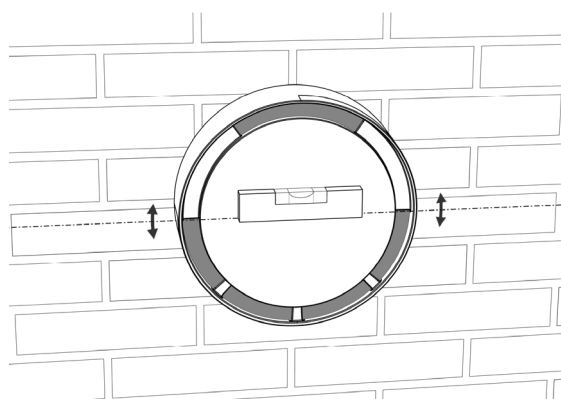

Figure 16 - Outside hood, level
2. Rotate the outside hood until it is level, see Figure 16.